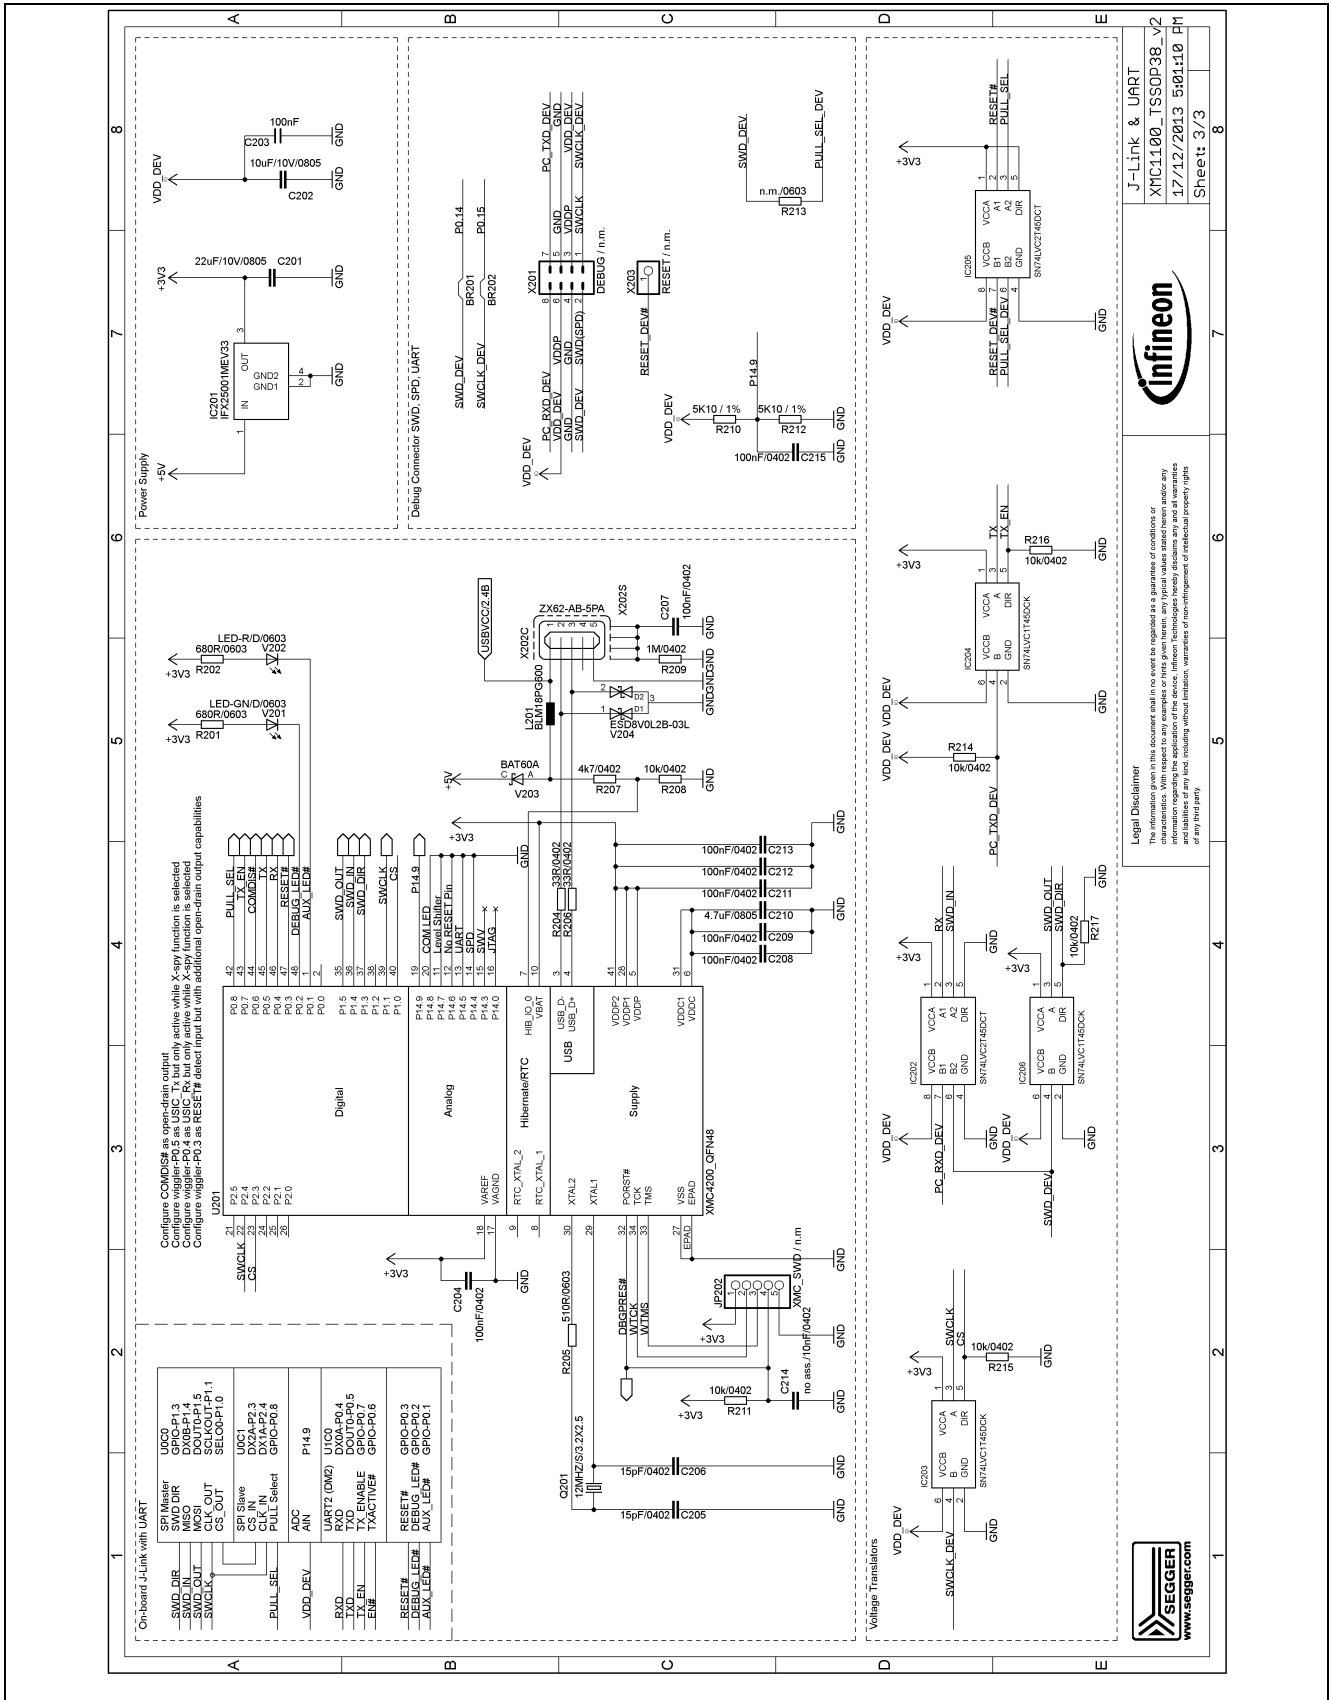

Figure 10 Schematic 2 of 2 XMC1100 CPU Card for Arduino™
- Figure 10: On-board Debugger, Power